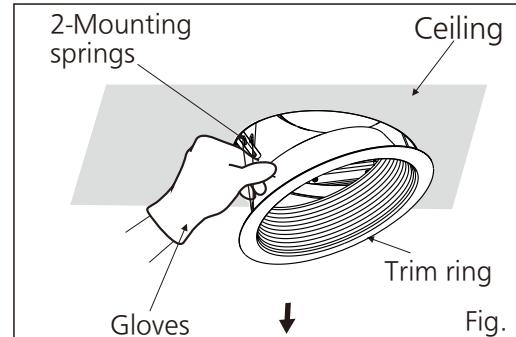

Fig. 10
1. Remove the trim ring by pulling down the mounting springs. (Squeeze mounting spring and pull down carefully.) (Fig. 10)
1. Remove the trim ring by pulling down mounting springs. (Squeeze mounting spring and pull down carefully.) (Fig. 10)